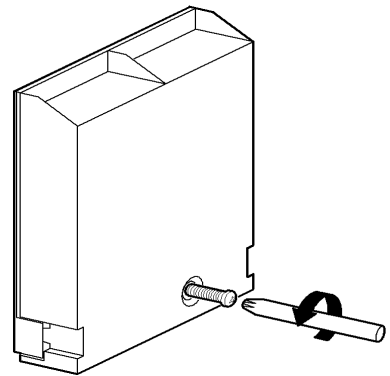

Fig. 8
- First remove retaining screw with pozidrive screwdriver. See Fig. 8.